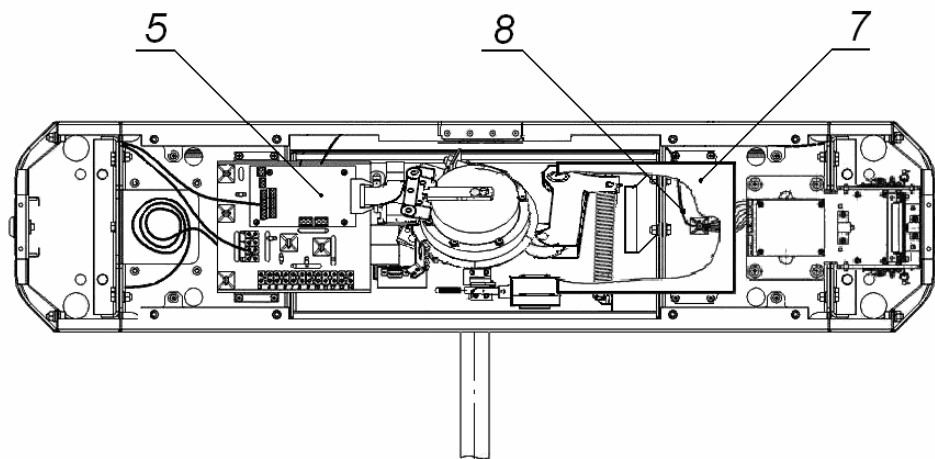
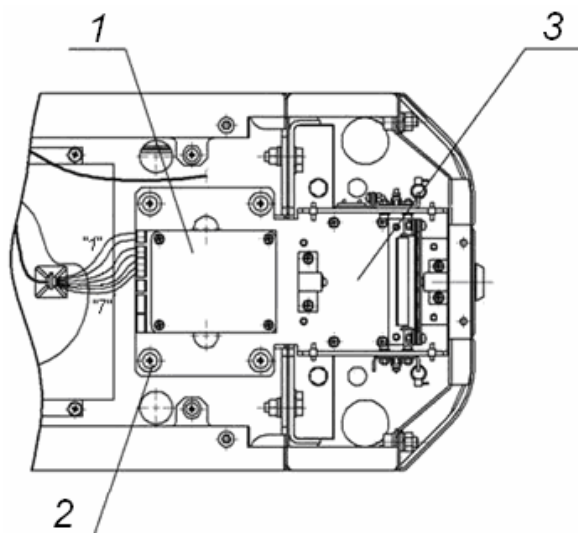

Fig. 12. Cable routing inside the turnstile housing
Fig. 15. Card capture reader mechanism
2. Make holes for anchor bolt sleeves for the turnstile housing installation (Fig. 11). Prepare a cable raceway for cables when cables are laid concealed under floor. Install and fix the turnstile housing only after all cables inside the turnstile housing and in electric raceways are laid. Cable routing inside the turnstile housing is shown in Fig. 12.
To reorientate the card capture reader mechanism (3, Fig. 15) i.e. to install it to the side of the Reader №1 (Ref. Fig. 12), rather than to the side of the Reader №2 proceed as follows:
- 7 Disconnect the card capture reader cable (8, Fig. 12) from a side of the card capture reader control board.
- 8 Dismantle the card capture reader mechanism (3, Fig. 15, – is fixed with 4 bolts M5×20, 2, Fig. 15) and install it to the opposite side of the turnstile, fixing it in the corresponding place with the same bolts.
- 9 Reposition the card capture reader cable (8, Fig. 12) to the side of the reader №1. Use self-adhesive cable tie mounts and nylon cable ties from the standard delivery set to fix the cables.
- 10 Connect the cable of the card capture reader (8, Fig. 12) to the card capture reader control board in accordance with a layout (Fig. 14 and Fig. 15).
The turnstile design has the place designated for mounting of an ACS controller. The ACS controller is mounted on a bracket (7, Fig. 12). Maximum possible size of the mounted board is 160×150×35 mm.